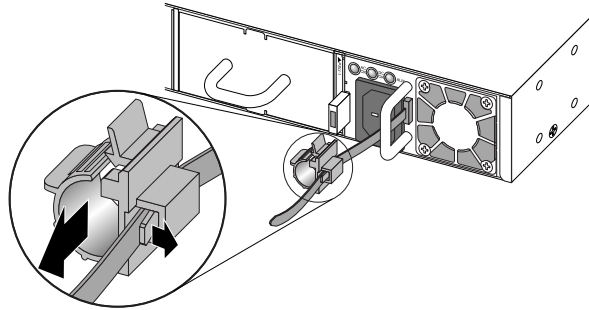

Figure 287: Moving the Power Cord Retainer
- a. If necessary, slide the plastic cord retainer farther away from the back of the switch (see Figure 287).